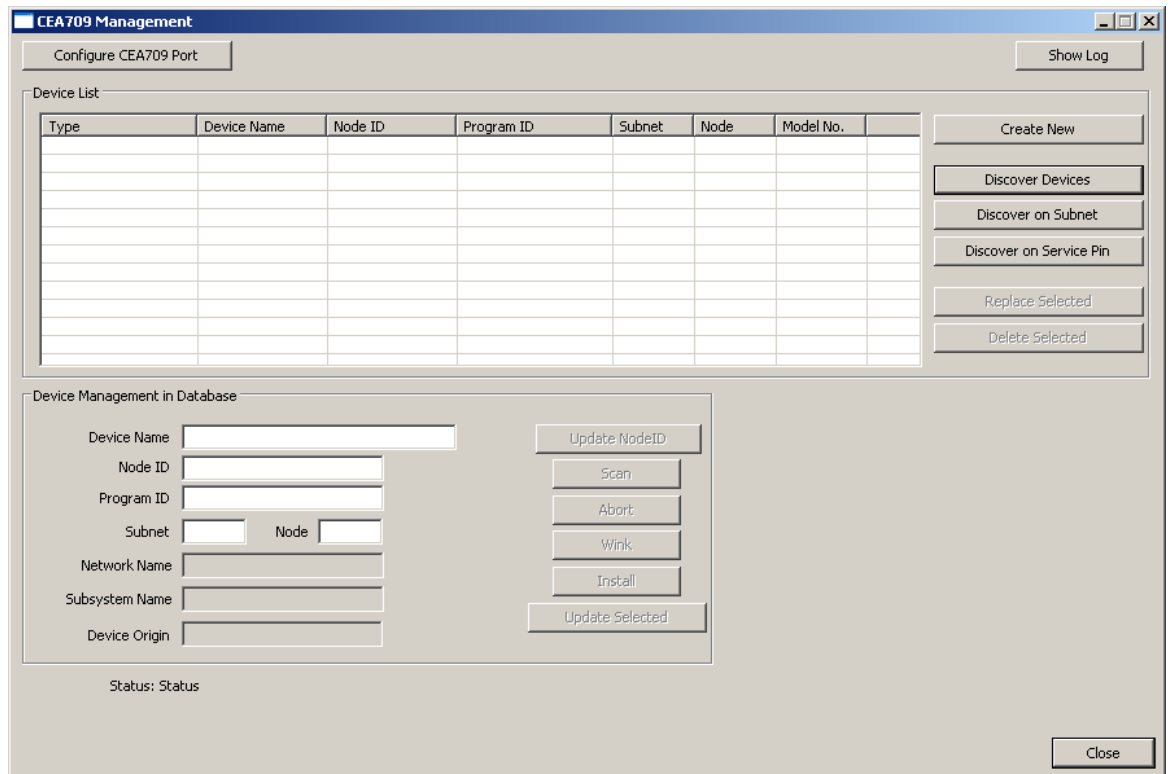

Figure 145: CEA-709 network scan dialog.
- Right-click on that folder and select **Scan CEA709/852 Network....** This opens the **CEA709 Management** dialog as shown in Figure 145.